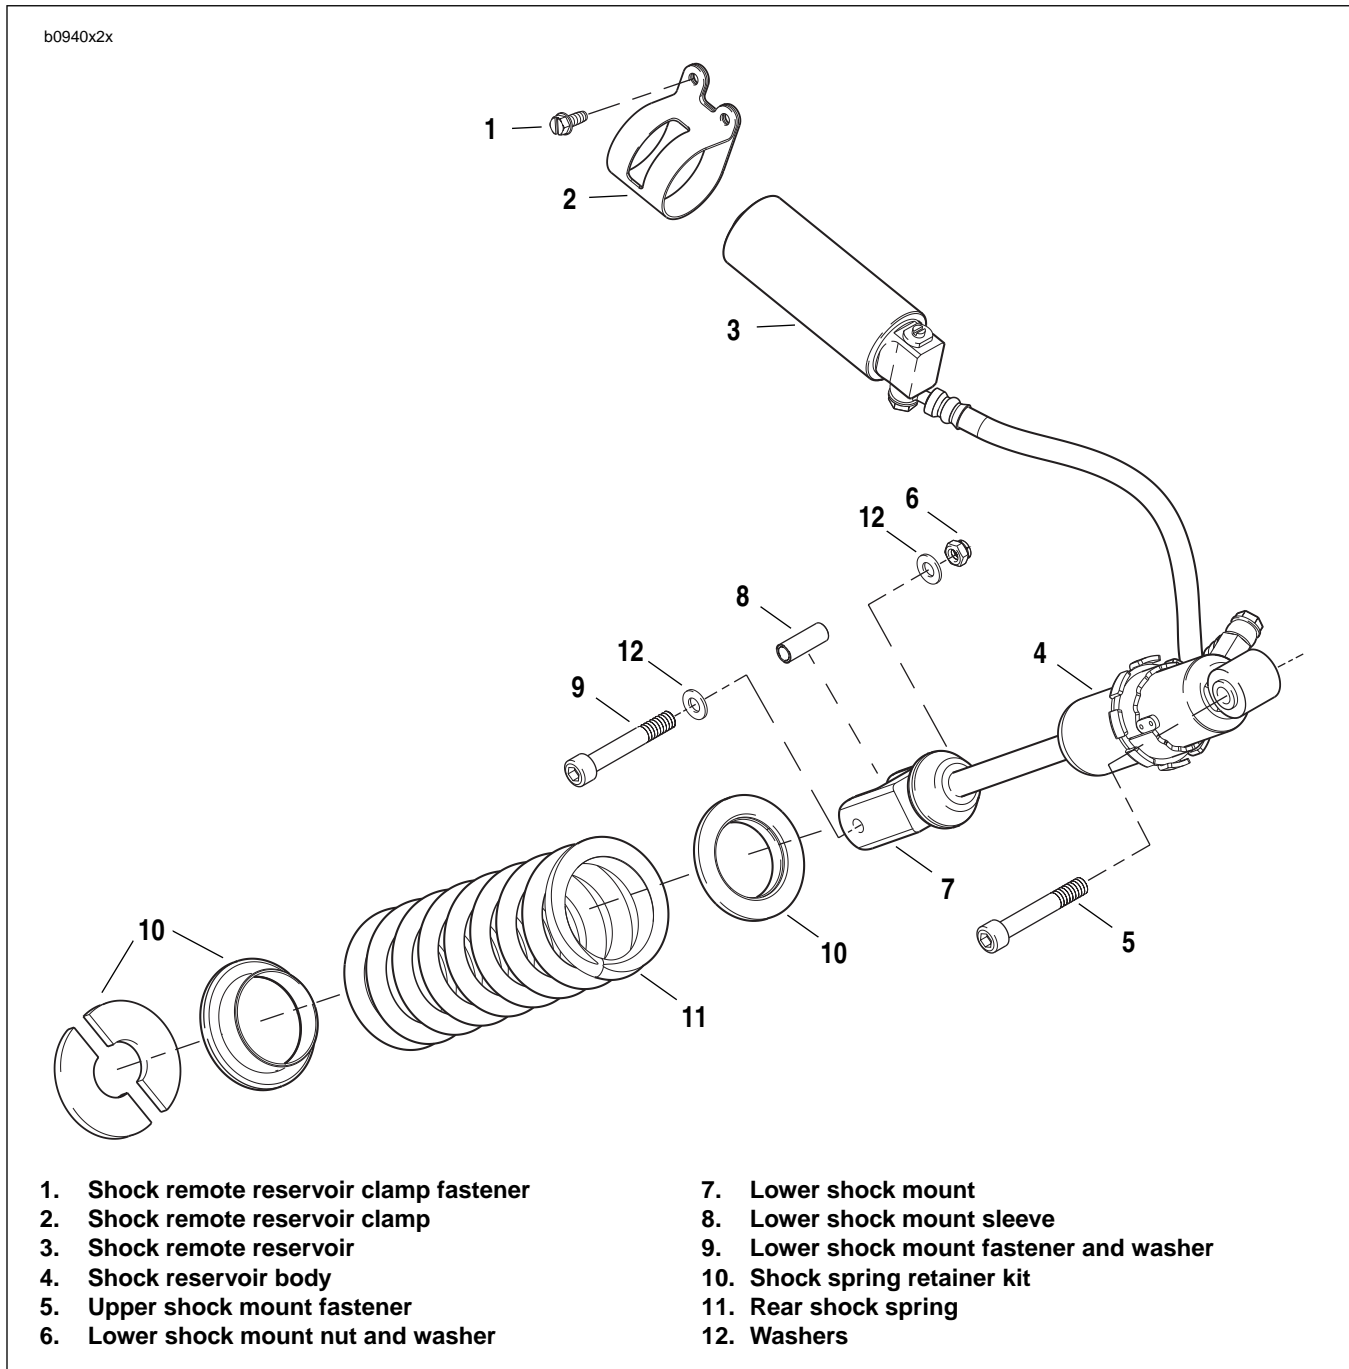

Figure 2-89. Rear Shock Absorber Assembly
2. Install pivot shaft (9) with a special 7/8 in. hex tool located in tool kit, ANTI-SEIZE and tighten to 24-26 ft-lbs (32-35 Nm).
3. Apply LOCKTITE 272 and tighten pivot shaft pinch fastener (7) to 17-19 ft-lbs (23-26 Nm).
4. See Figure 2-89. Install lower shock absorber mounting fastener (7) and spacer from shock absorber and swingarm and tighten to 15-17 ft-lbs (20.3-23 Nm).
5. See Figure 2-89. Remove upper shock (5) and lower shock mount fasteners (6 and 9) and lower shock mount sleeve (8).
6. Remove rear shock reservoir clamp (2).
1. See Figure 2-89. Install upper shock mount and tighten fastener (5) to 48-52 ft-lbs (65-70.5 Nm).
2. Install lower shock mount with fasteners, washers (6, 9, 12) and lower shock mount sleeve (8) and tighten to 15-17 ft-lbs (20.3-23 Nm).
See Figure 2-89. Verify compression adjuster screw is facing up.